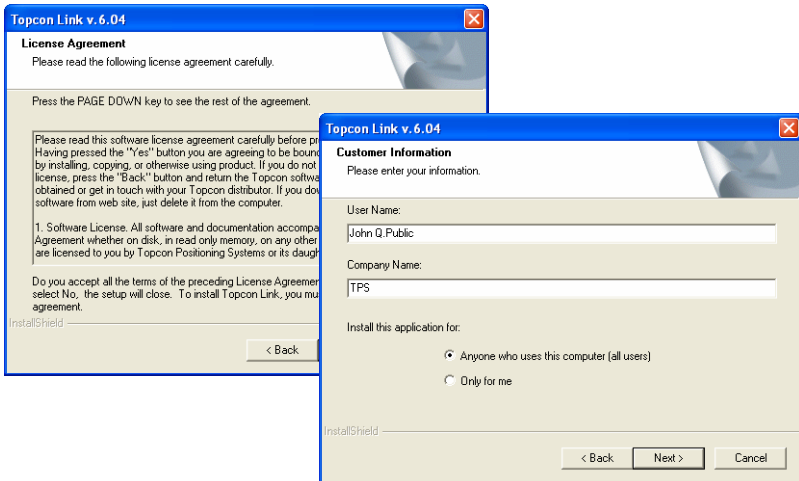

Figure 1-1. License Agreement and Customer Identification
3. Click **Yes** on the **License Agreement** dialog box (Figure 1-1 on page 1-4). Clicking **No** terminates the installation.
4. On the **Customer Information** dialog box, enter the *User* and *Company* names, then click **Next** (Figure 1-1 on page 1-4).